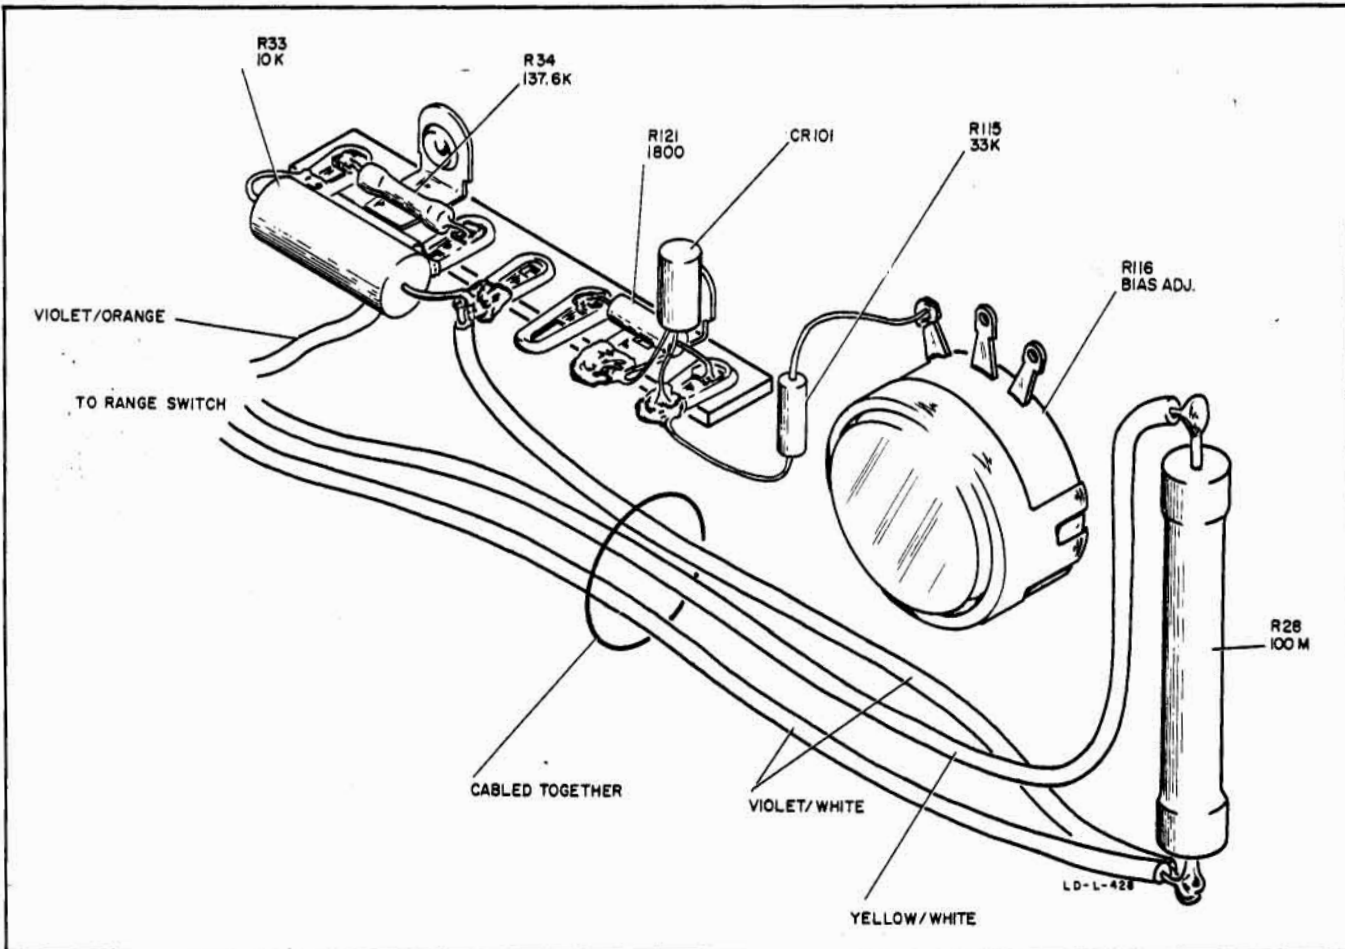

Figure 4. 7-Lug Terminal Strip Detail
- ✓ 17) Refer to figure 4. Unsolder yellow-white wire from R28 (100 megohms) located near R116, BIAS ADJ control. Unsolder violet-white wires to RANGE switch from other end of R28.
- 40) Dress cabling from S1F wafer behind RANGE switch and close to chassis. Connect wires to 7 lug terminal strip at rear of chassis to agree with figure 4.